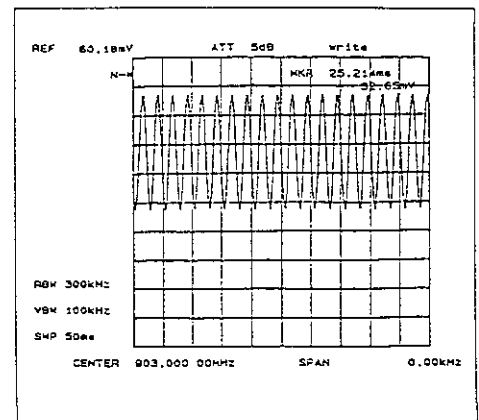

Figure 5-12 Vertical Scale: LINEAR, ZERO SPAN Mode
- Set up the ZERO SPAN mode (Figure 5-12).